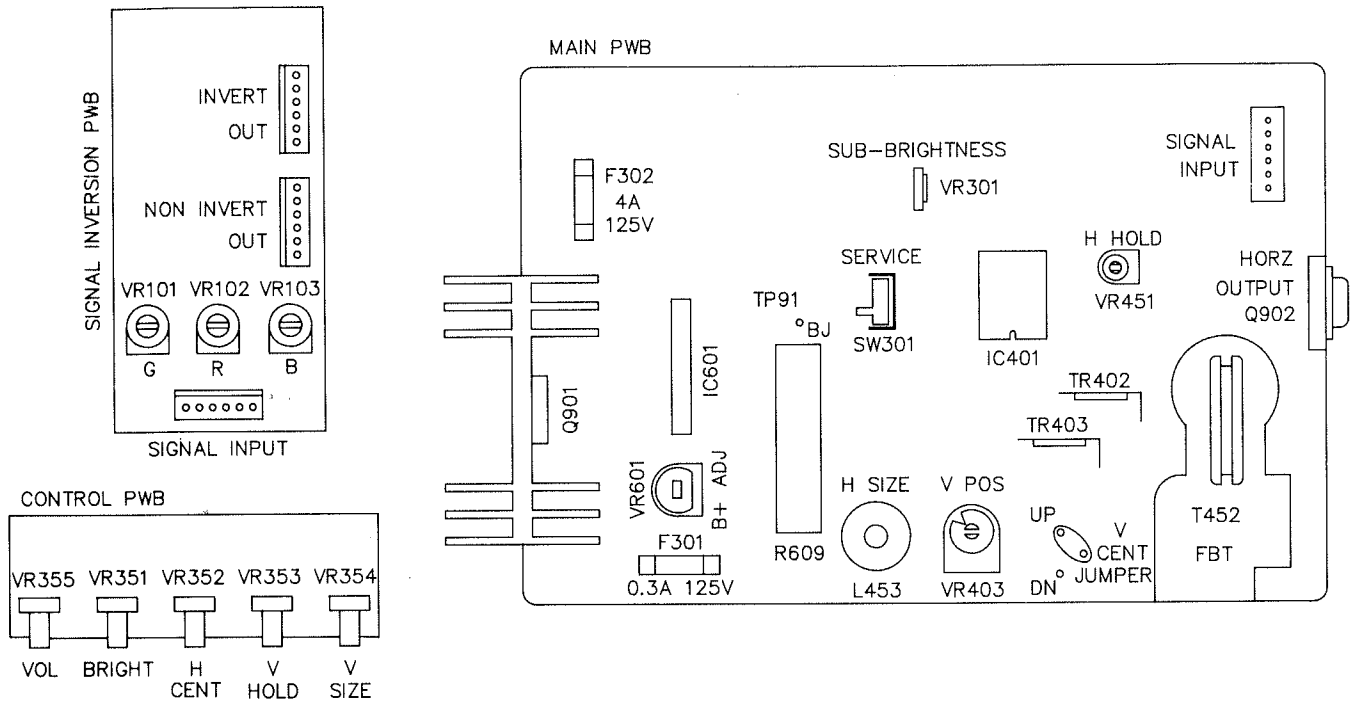
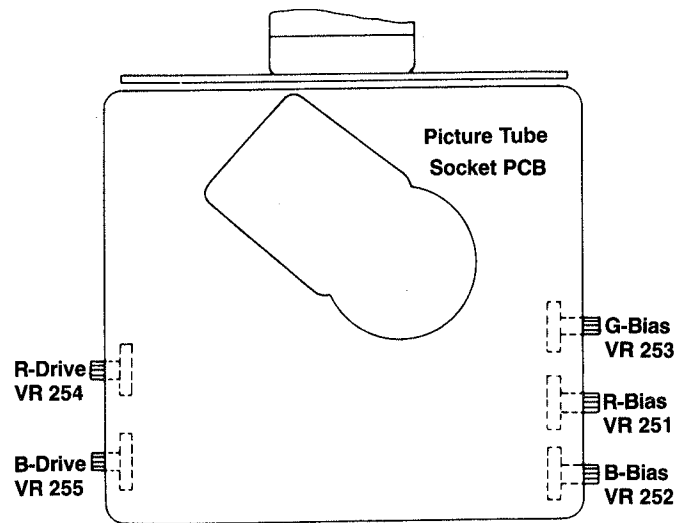

Figure 3 Adjustable Controls and Test Points on Main Chassis PCB, Control PCB, and Signal Inversion PCB
Figure 5 Adjustable Controls on Picture Tube Socket PCB
The BRIGHT control VR351 should be adjusted if the picture image is either too bright or too dark. See Figure 3 for the location of the Brightness control on the Control Printed-Circuit Board (PCB).
color or brightness, and whenever the purity and convergence is adjusted. (See Figure 3 for the location of the Screen and Brightness controls and Figure 5 for the Bias and Drive controls.)
The Horizontal Centering control should be adjusted if the picture is not centered on the screen, as indicated by a black area at either the left or the right edge. Figure 3 shows the location of the H-CENT control VR352 on the Control PCB. Adjust this control until a normal screen image is obtained.
The Vertical Hold control should be adjusted if the picture drifts straight up or down on the screen. Figure 3 shows the
The Vertical Size control should be adjusted if the screen image is either not filling the screen vertically, or if it is overscanning the screen vertically. Figure 3 shows the location of V-SIZE control VR354 on the Control PCB.
The Horizontal Width coil should be adjusted if the screen image is either too wide or narrow. Figure 3 shows the location of HORIZ WIDTH coil L453 on the Main Chassis PCB.
The Focus control should be adjusted if the screen image is not sanely defined. The Focus control is attached to the top of the horizontal-output transformer as shown in Figure 3. Turn this control until you get optimum screen saneyness.
The Horizontal Hold control should be adjusted if the picture is drifting sideways across the screen. Figure 3 shows the location of H-HOLD control VR451 on the Main Chassis PCB. Adjust this control until the black lines no longer slant downward or upward and you get a normal screen image.
- c. Adjust the Screen control for a dimly-lighted screen. This control is attached to the horizontal-output transformer as shown in Figure 3.
- a. Turn off the green and blue guns of the CRT by rotating the G-BIAS VR253 and B-BIAS VR252 controls to the fully counterclockwise position. (See Figure 5 for the location of the Bias adjustments.)